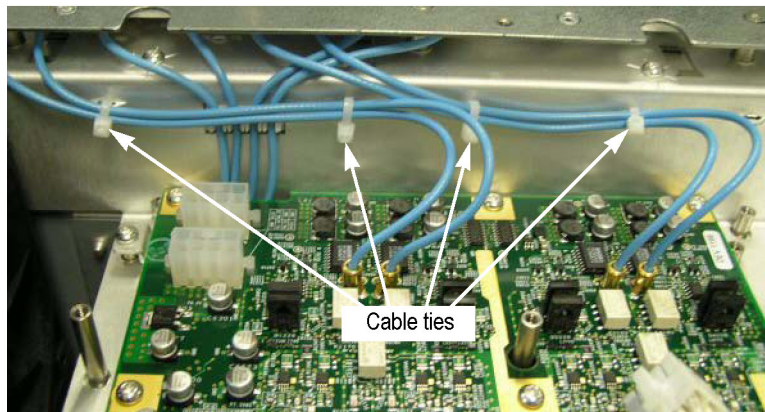

Figure 22: Location of the cable ties
3. Use a wire cutter to remove the four cable ties. (See Figure 22.)